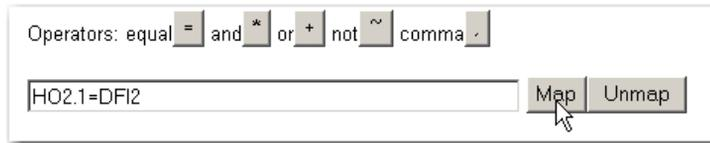

FIG. 349 ASSIGNMENT STATEMENT MAPPING DEVICENET FLOAT IN (DFI2) TO ZERO (HO2.1)
- Step 6. Click on the Select button to assign the source to the right side of the assignment statement. (See Fig. 349)